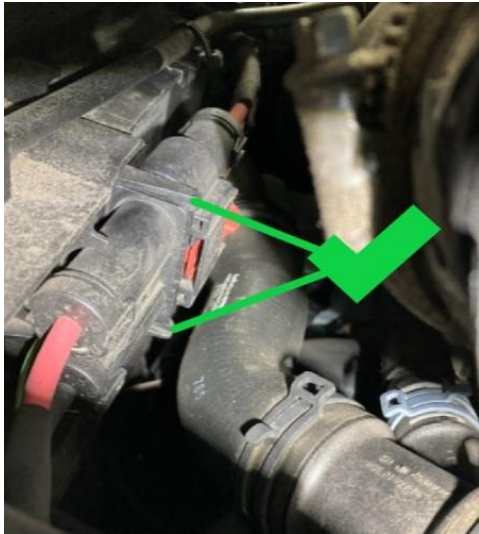
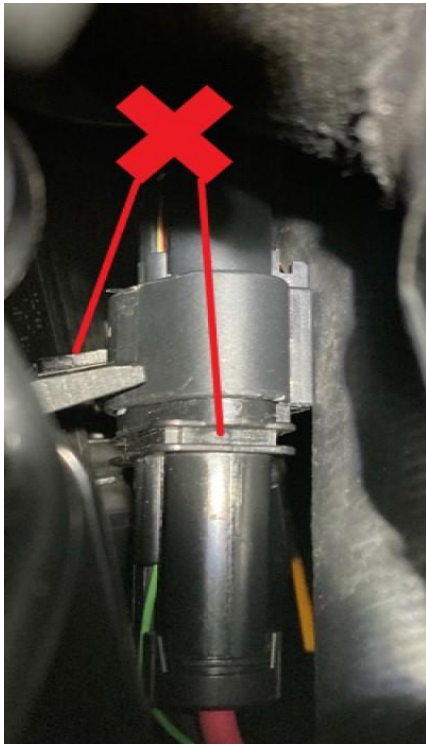

Figure 1
Figure 2
1) With the ignition switched off - Check the coolant fan connector is located correctly within the keeper as shown in Figure 1
Hint: Figure 2 shows the connector not located correctly within the keeper, in this scenario the connector must be fitted into the keeper as shown in Figure 1